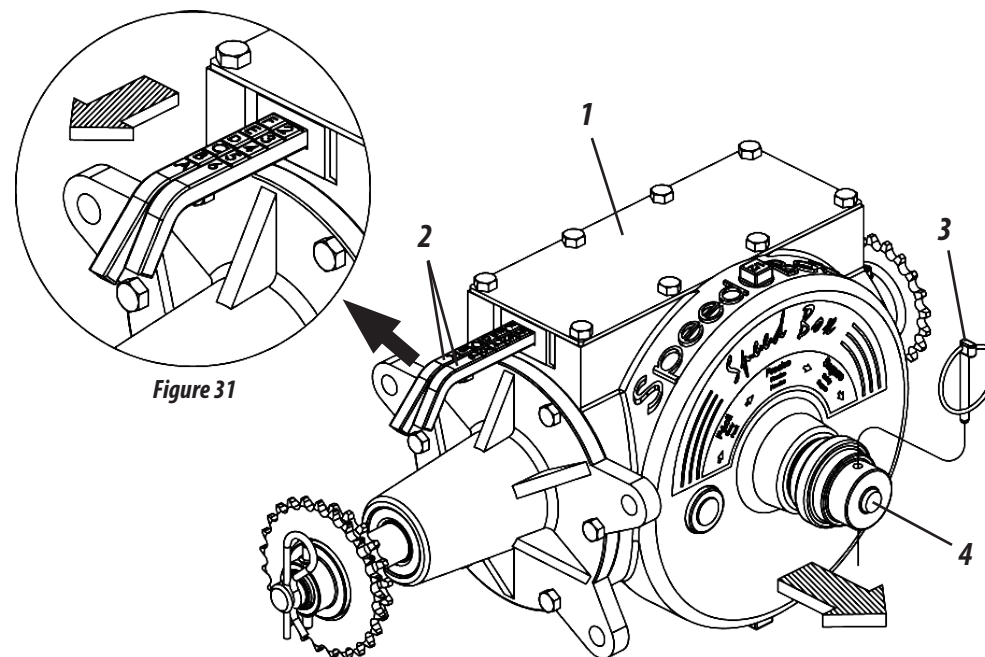

Figure 31
SPEED BOX (FIGURE 31)
- 1- Select the desired amount on the tables and verify the corresponding combinations of the levers (2). **Example:** Position **F2** on the table, indicates that the levers with letters must be in the **"F"** (fertilizer) position and the lever with numbers must be in position **"2"**, as shown in figure 31.
- 2- Remove the latch (3) to move the levers, pull the knob (4), and then adjust the levers as stated in the above example. When the combination is finished, return the knob (4) and then replace the latch (3).
SEED SPREADING ADJUSTMENT (FIGURE 31)